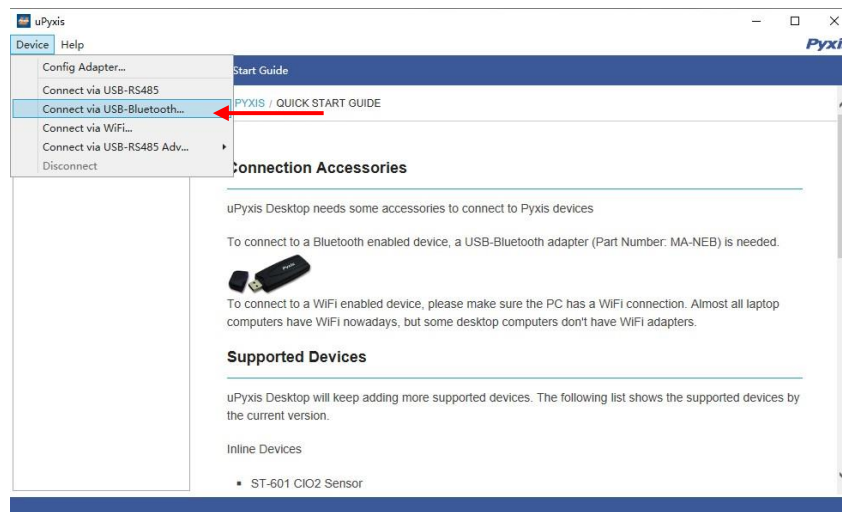

Figure 19.
4. On **uPyxis®** Desktop App, click Device → **Connect via USB-Bluetooth** (Figure 19).
5. If the connection is successful, the HW-400 and its Serial Number (SN) will be displayed in the left pane of the **uPyxis®** window.